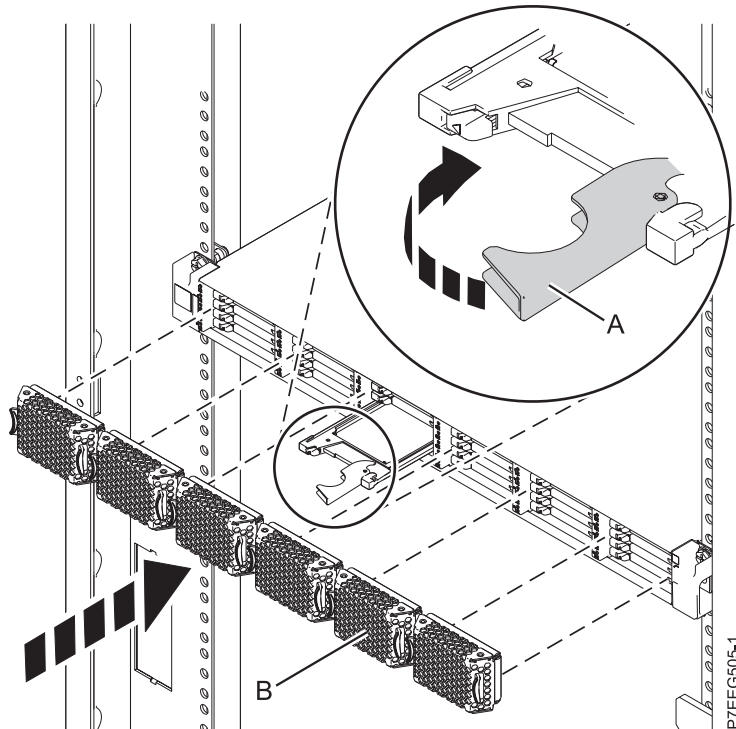

Figure 8. Installing a solid-state drive in the EDR1 PCIe storage enclosure
1. With the handle in the unlocked position, align the solid-state drive with the guide rails in the enclosure. See Figure 8 on page 15.